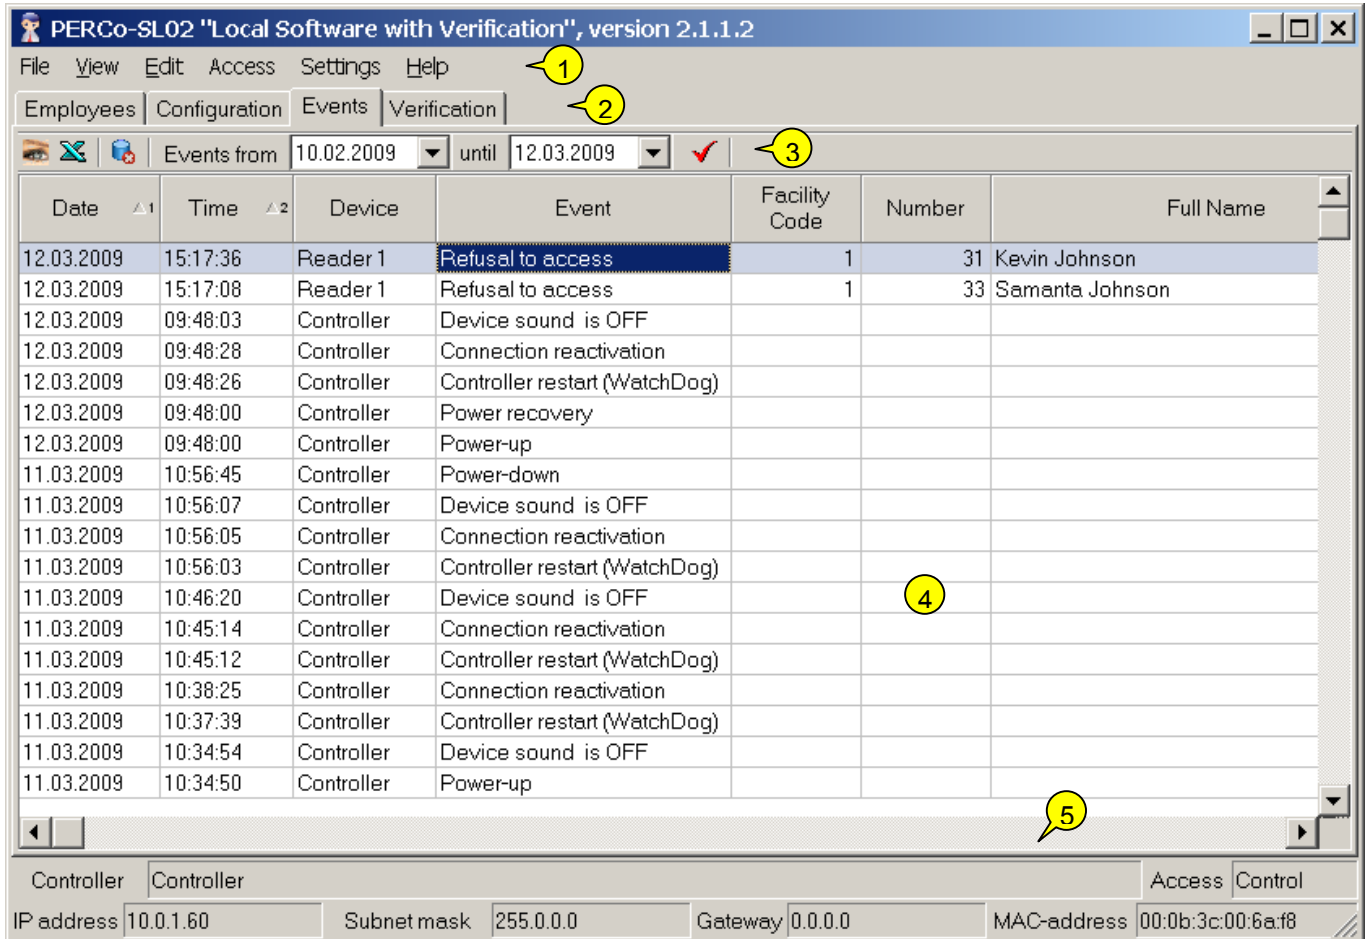

Fig.3. Events section work window
2. Choose the event related to the access (passage) control of a specified employee. The display will show a video frame received from the video camera at the moment of the event registration (refer to Fig. 3 of the Events work window subsection above).